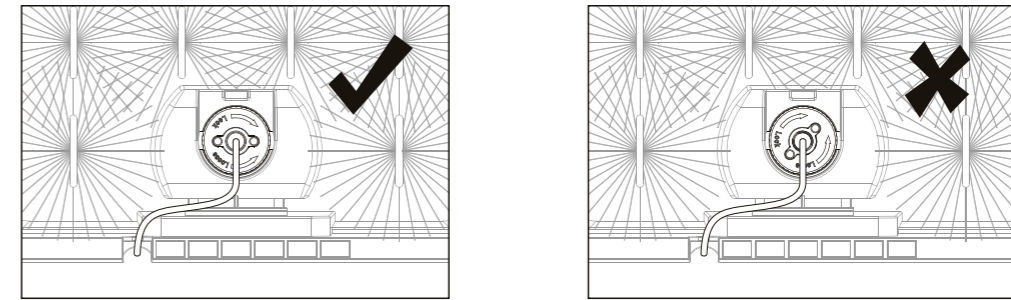

Figure 10
- 5) Connect the lead from the UVC lamp to a DC power supply of 12V to 18V and the UVC lamp illuminates as long as it has been locked in place (Referring to **Figure 10**). Note that the voltage of the power supply will not alter the effectiveness and the power consumption of the UVC lamp. When necessary, double check if the lamp is in operation by observing diffused UV light in darkness.